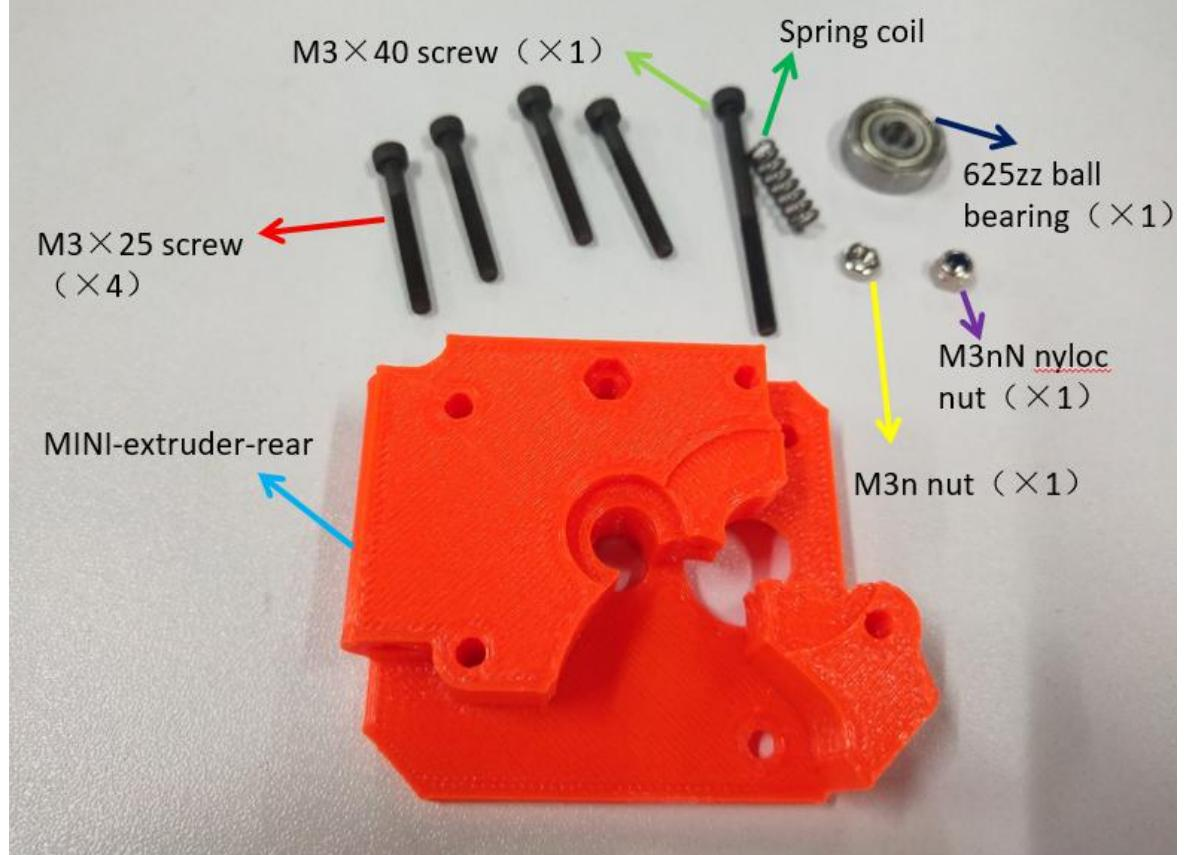

Figure 2.3.1
**Step 2-3-1:** As shown in Figure 2.3.1, prepare the materials and check whether the quantity of materials is correct, and prepare for the next installation.